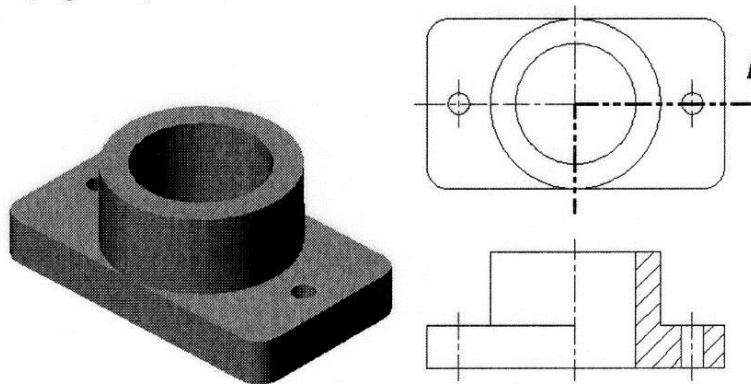

Figure 4. Half Section.
2. **Half Sections** (Figure 4).